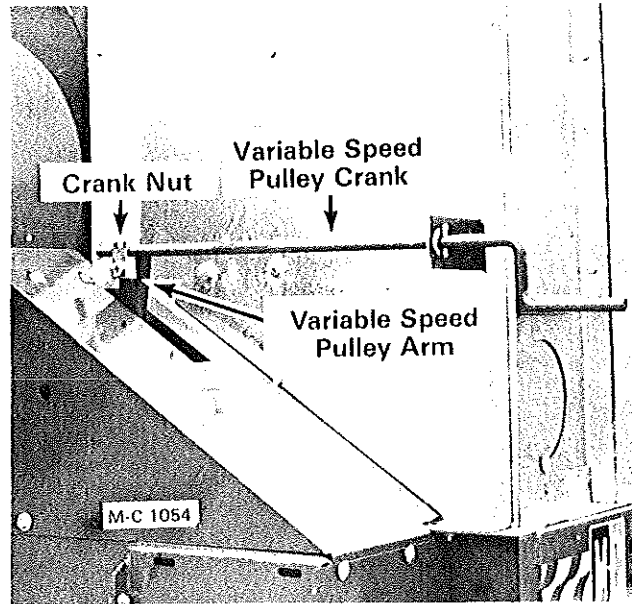

Figure 4
1. Install the variable speed pulley crank assembly as shown in Figure 4. Use a $\frac{1}{2}$ - 13 x $2\frac{1}{2}$ " grade 5 capscrew and hex nut to attach the crank nut to the variable speed pulley arm.